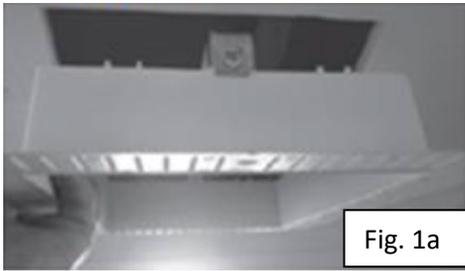

Fig. 1a
- Insert trimless Fixture into ceiling cut and use provided screws to fix in place. [Fig. 1a – 1b]